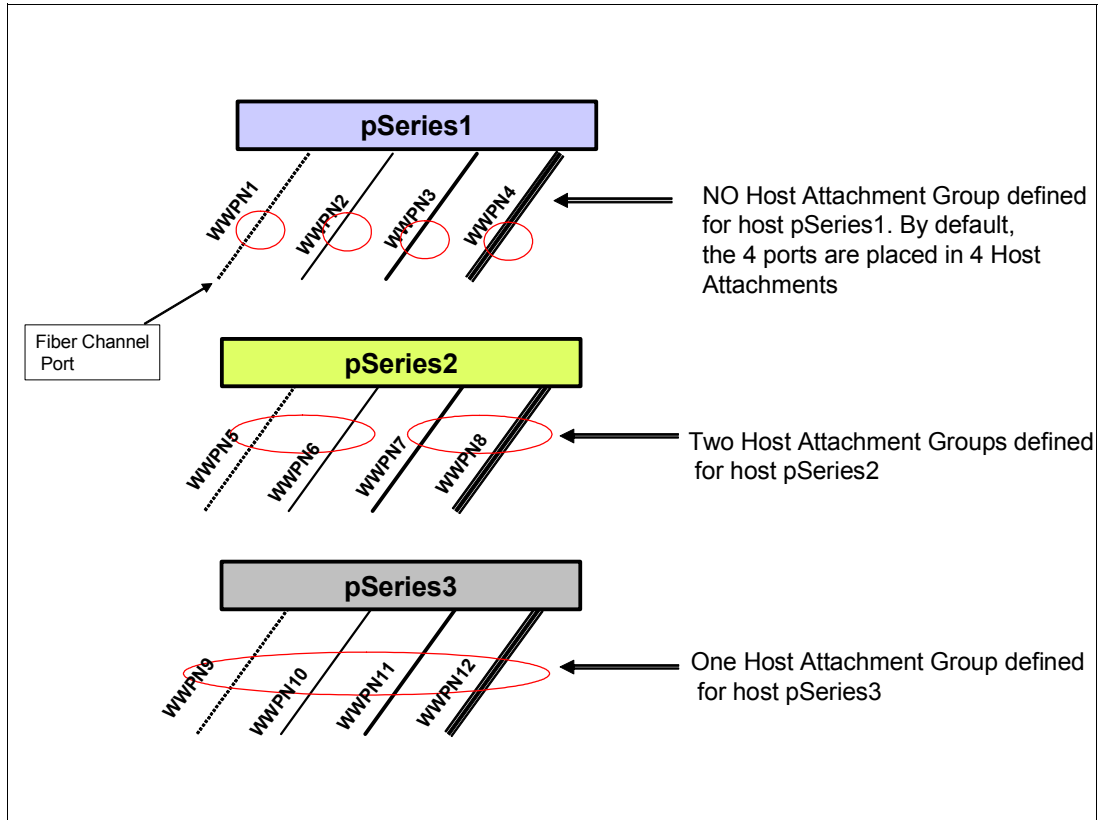

Figure 10-1 Diagram of hosts and host attachment groups
- ▶ Multiple Fibre Channel ports' WWPNs on the same host system can be specified in one or more host attachments, in one host definition called *host system* in the GUI. A host attachment does not always mean a single port. For example, refer to Figure 10-1 on page 191.
- ▶ In Figure 10-1 we show three pSeries hosts with four host ports each. The first host, pSeries1, has no specific attachment groupings, so each port could be defined as an attachment. Server ports can be grouped in attachments for convenience. For example, pSeries2 shows two host attachments, with two ports in each attachment. Server pSeries3 shows one host attachment with four ports grouped in the one attachment.